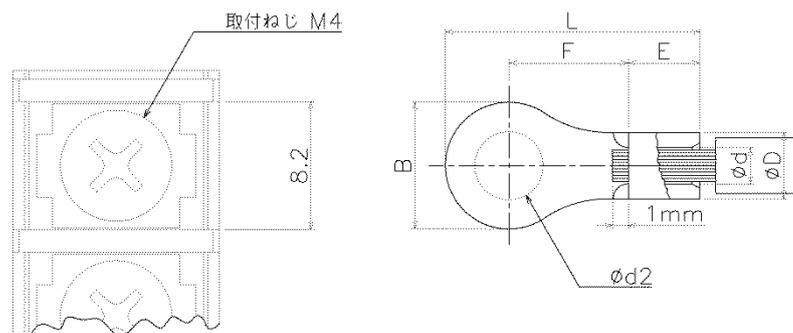

Figure 2.6c Terminal lug example (non-insulated ring terminal : JIS C 2805)
- Stripping length depends on the terminal lug type and shape. Please follow the instructions for each terminal lug. Figure2.6c shows an example in case of non-insulated ring terminal (JIS C 2805)
5. Assemble the parts of connection facilities as shown in Figure 2.6c